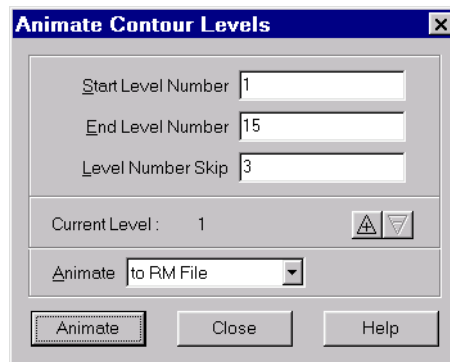

Figure 30-3. The Animate Contour Levels dialog.
- From the Tools menu, choose Animate, then choose Contour Levels. The Animate Contour Levels dialog appears, as shown in Figure 30-3.